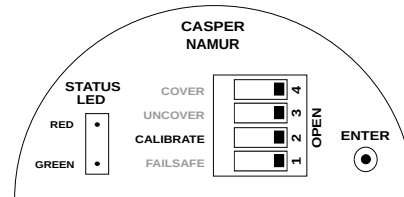

Figure 15: Saving Calibration
- Open the housing cover and set the CALIBRATE switch back to OPEN position as shown in Figure 15.